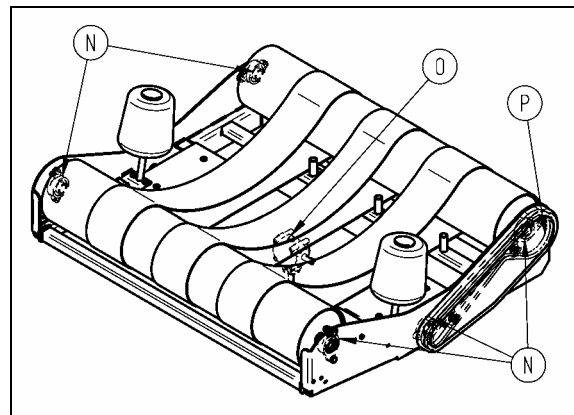

fig. 34 – Lubrication points of the cradle
- Rotating cradle drive chain lubrication (fig. 34, P).
- To grease bearings of rolls supports on the cradle (fig. 34, N).
- To lubricate gear chain of the cradle (fig. 34, P).
To change the rotating cradle angular transmission oil, using 0,8 Kg SAE 90 oil (fig. 34, O).